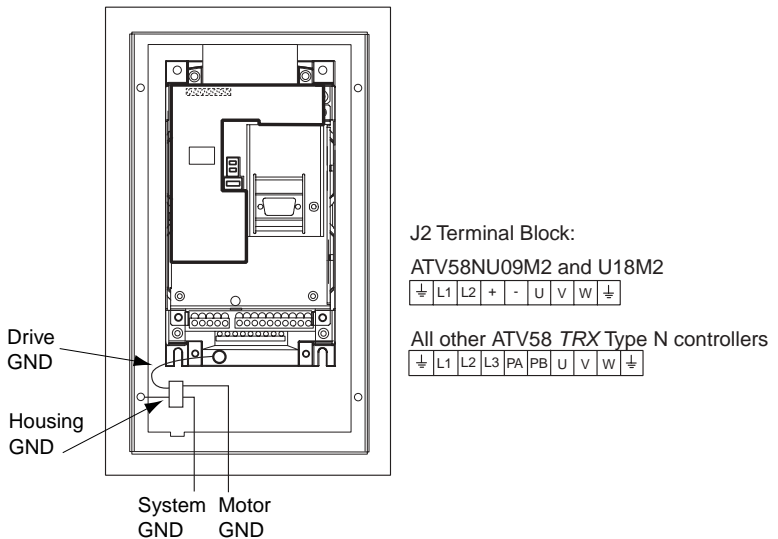

Figure 4: Grounding
- Connect the system ground conductor and the motor ground conductor to the ground bar located on the heat sink. See Figure 4 for ground connection locations. Wire size is determined by the drive controller size and by national and local codes.
Ground equipment using the provided ground connecting point as shown in Figure 4. The drive controller panel must be properly grounded before power is applied.